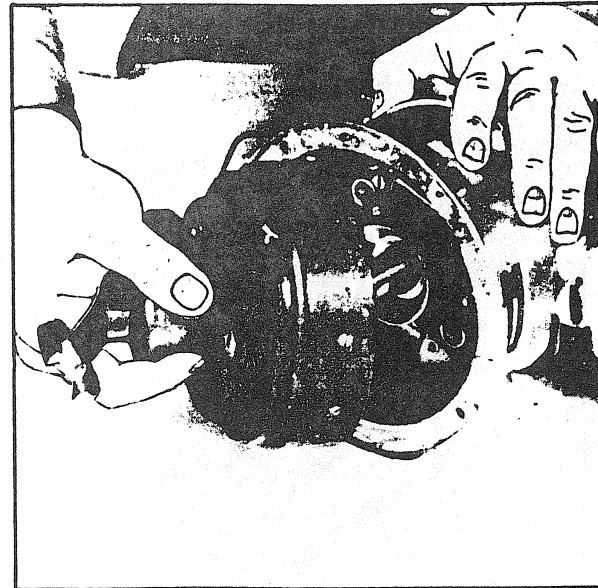

FIGURE 15
- With a flywheel puller, pull out magneto ring assembly (fig. 15).